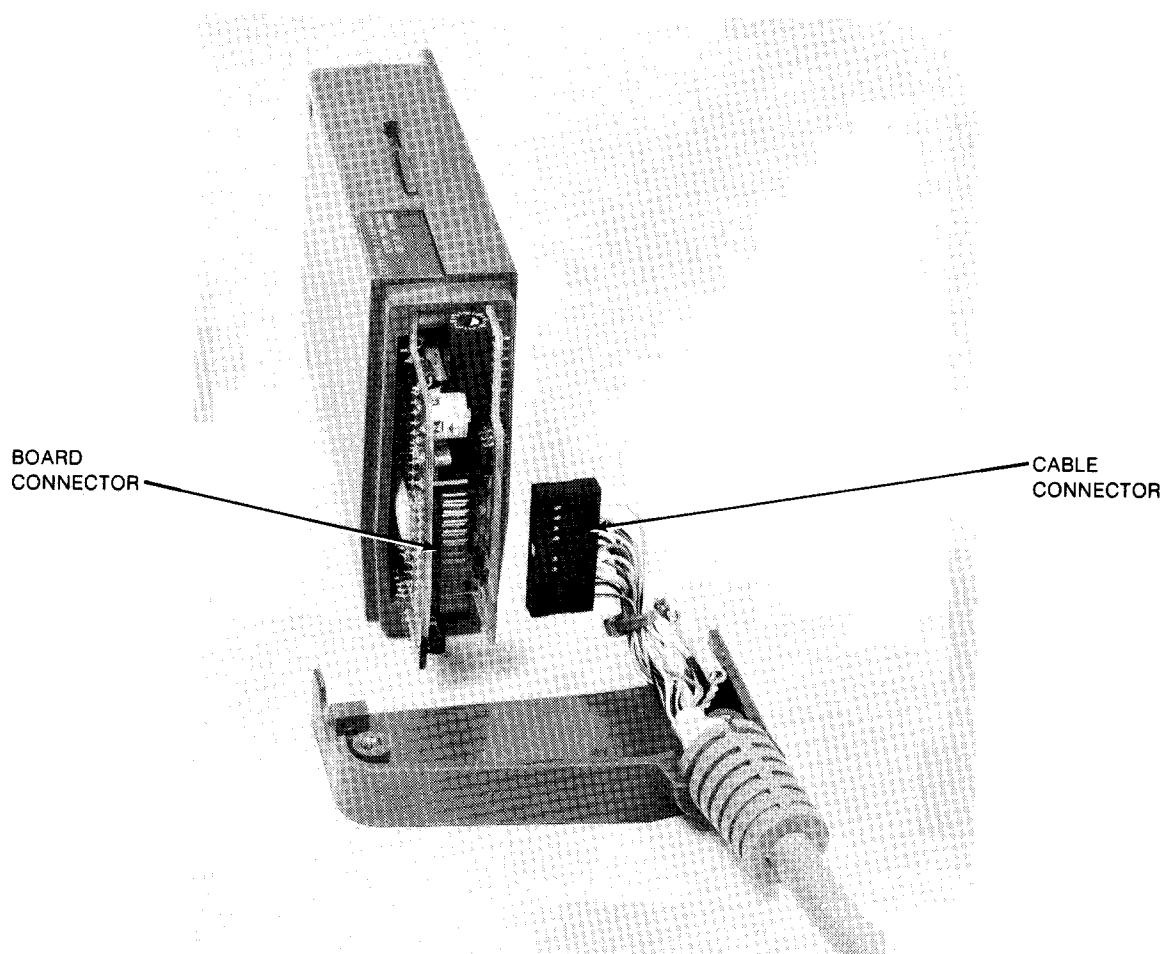

Figure 2-3. Cable Installation
Refer to Figure 2-3.
3. Remove the connector supplied with the standard Real Time Clock from the rear of the processor board (refer to Figure 2-3). Install the new cable connector in place of the old connector. Note that the cable connector can be installed in one direction only.